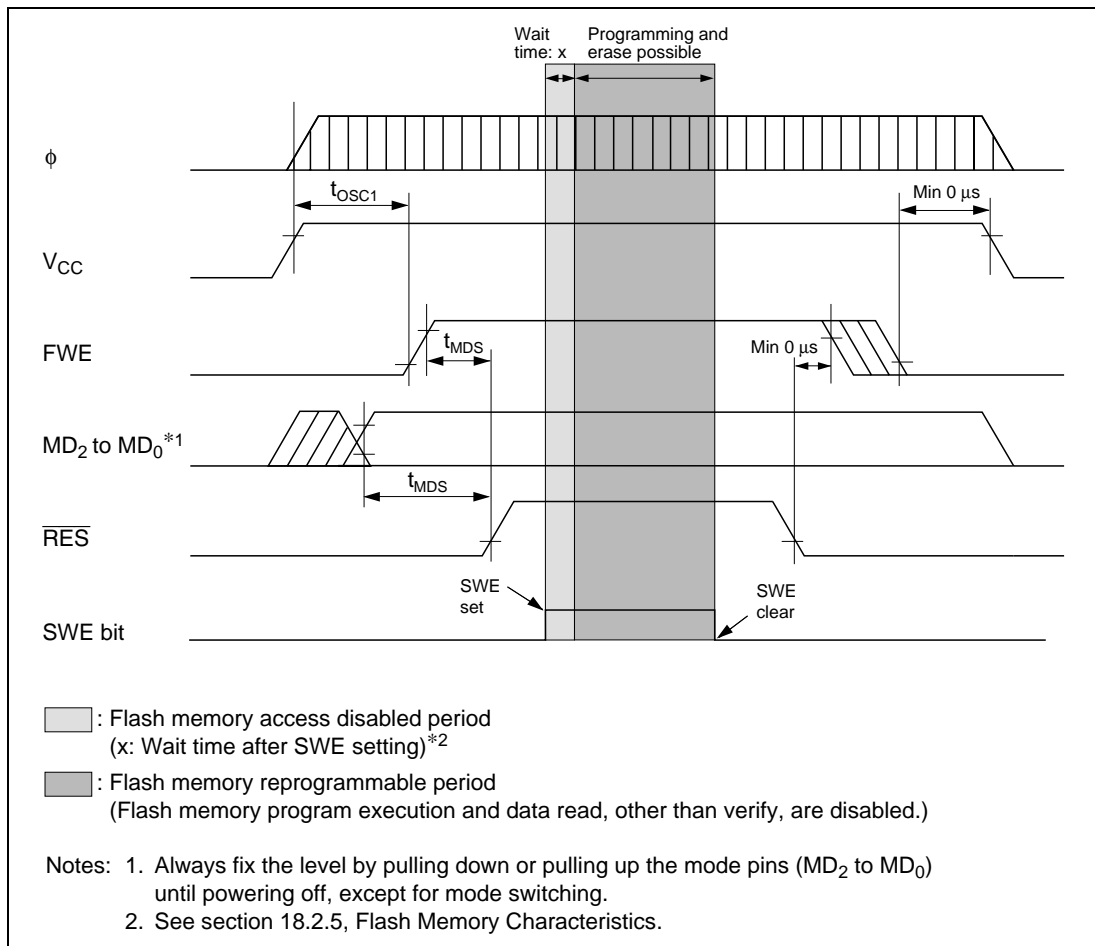

Figure 15.25 Powering On/Off Timing (Boot Mode)
(2) Notes on powering on/powering off (See figures 15.25 to 15.27.)
(3) Notes on FWE pin High/Low switching (See figures 15.25 to 15.27.)